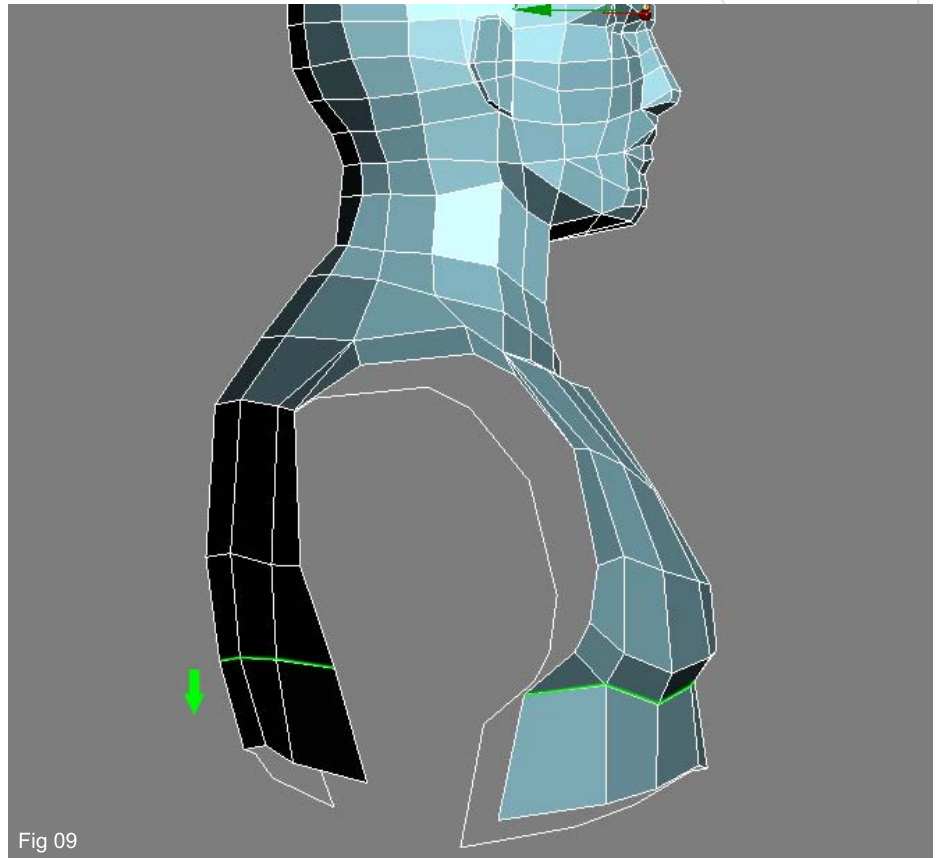

Fig 09
9. If we look at Fig09 we can begin to see the shape that the upper arm will assume when it eventually materializes from the hole. Before we close the bottom edge copy the edges highlighted in green to start off the abdomen and lower back areas.